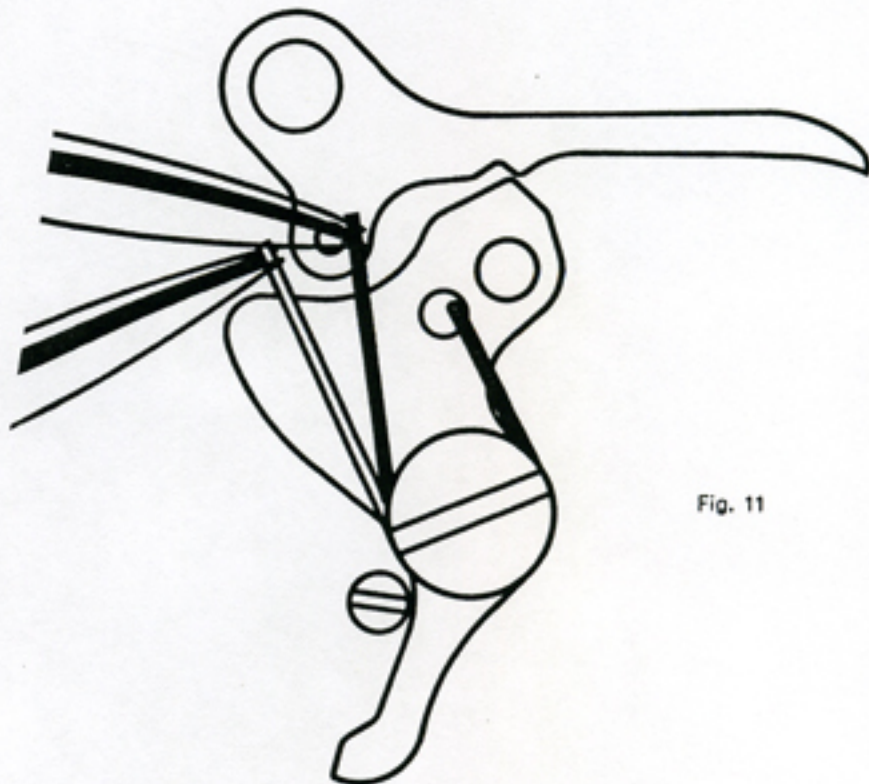

Fig. 11
- the blocking-lever spring (fig. 11).